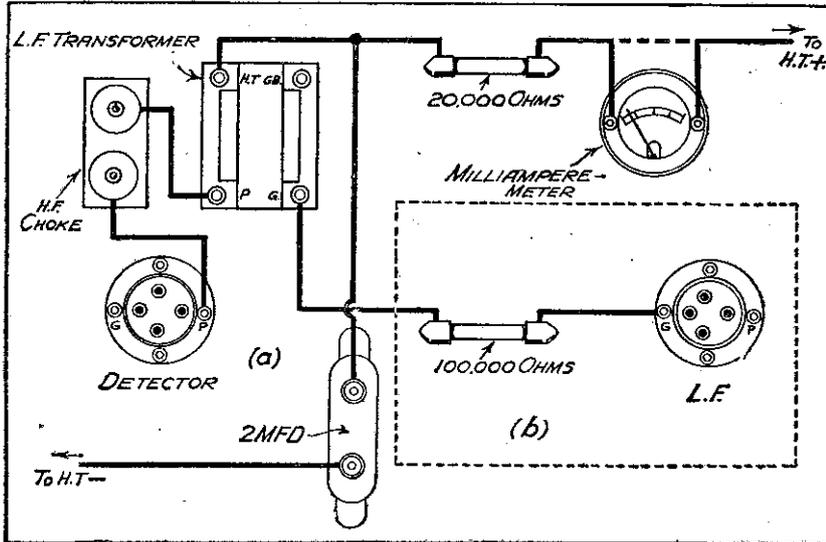

Fig. 3.—A decoupling resistance in the anode lead, and a resistance in the grid lead to cure instability.
and one showing a full scale deflection on 10 milliamps. is most convenient. Measure the anode current to each valve by breaking the connection between H.T. + and the anode component (resistance, transformer primary, choke, etc.) as shown in Fig. 3. The current passing can then be compared with that given on the maker's instruction sheet for the particular H.T. voltage in use. Remember that it is the voltage between the anode of the valve and H.T.—which counts and not the total battery voltage. Too low a current indicates (1) too much grid bias; (2) run-down accumulator; (3) defective valve. In the case of all-mains receivers it might also indicate that the rectifier valve is losing its emission, but the H.T. voltage would then be low. An unduly high anode current indicates (1) insufficient grid bias (probably a burnt-out resistance, if an all-mains set); (2) a break in the grid circuit; (3) valve oscillating; or (4) if an S.-G. or Pentode, screen voltage too high. To check for (3) touch anode terminal with damp finger; the current will change if valve is oscillating. If the anode current fluctuates when signals are not being received there must be a bad contact in either anode or grid circuit. To check, first short-circuit the anode components in turn to find which, if any, is wrong. Then do the same with grid circuit components. When the anode current to every valve is normal and yet reception is impossible it is
Another cause of much exasperation is low-frequency reaction. This sometimes manifests itself as a constant whistle which accompanies all reception, and sometimes as a peculiar spluttering noise commonly referred to as "motor-boating." It is more common in older sets and becomes particularly troublesome when the high-tension battery begins to run down. The fault can often be cured by the well-known method of fitting a decoupling resistance in the detector anode lead and by-passing this with a 2 mfd. condenser. Figure 3(a) illustrates this point.